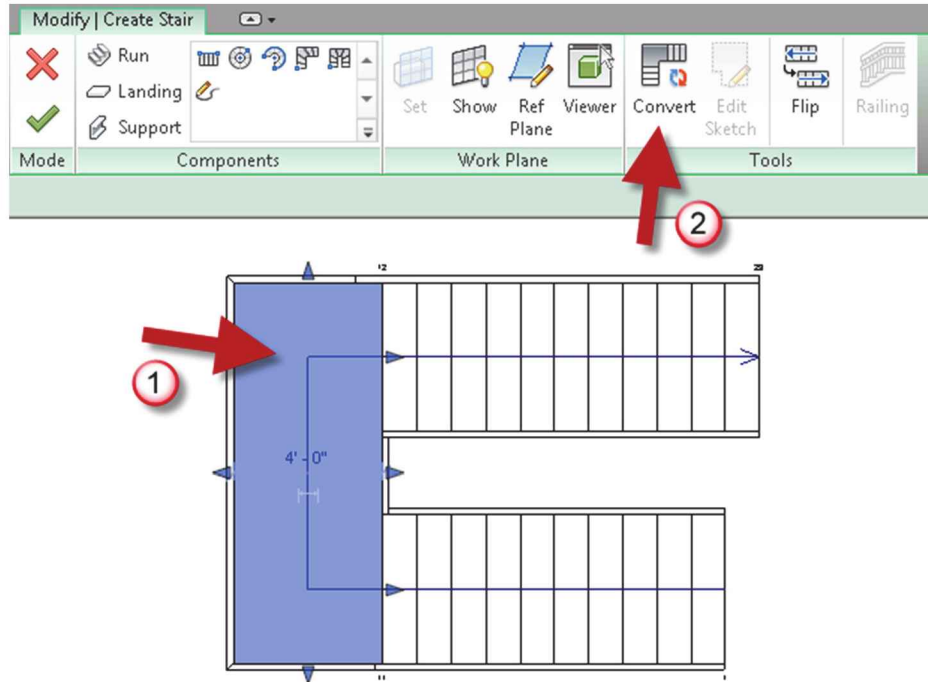

FIGURE 7-8.3 Select landing and convert to sketch to customize the footprint
4. Select the landing, not the stringer (Figure 7-8.3).